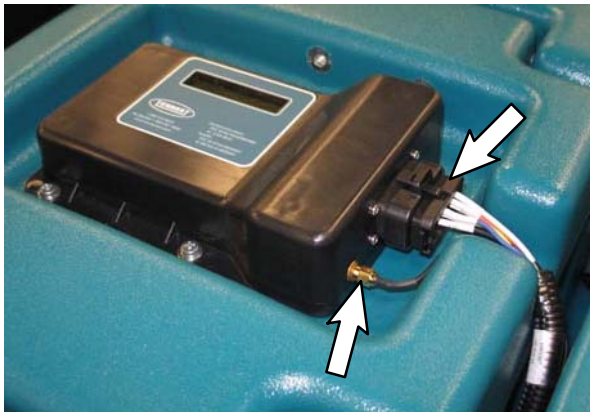

FIG. 1
1. Disconnect the main wire harness and antenna cable from the existing telemetry module on the machine. (Fig. 1)
4. Use saved hardware to install the new telemetry module (1) onto the machine.
5. Connect the telemetry harness and antenna cable to the telemetry module (1). (Fig. 1)